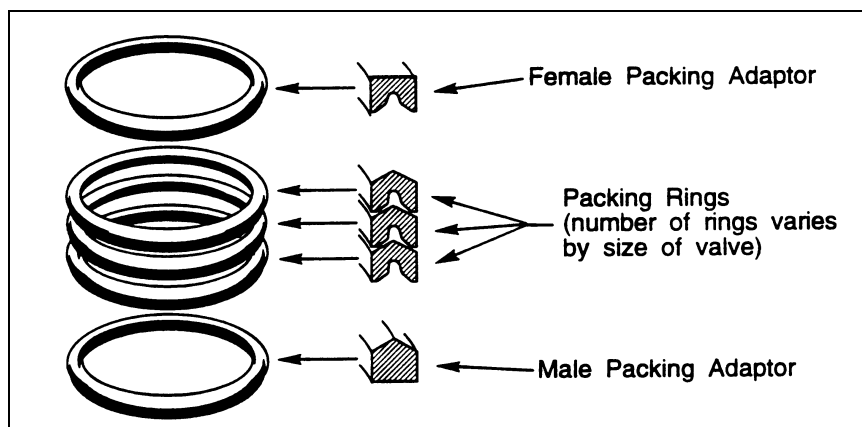

Figure 4 - Correct Packing Installation Sequence
8. For valves with gear actuators, lubricate the new packing (A9), then install it one ring at a time in the sequence shown in Figure 4.